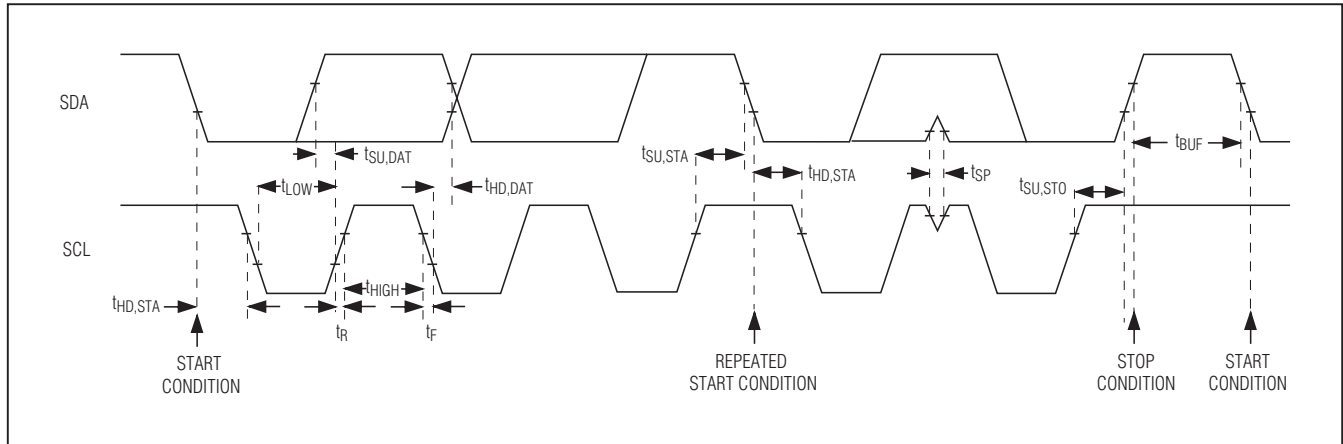

Figure 4. 2-Wire Interface Timing Diagram
The IC features an I2C/SMBus-compatible, 2-wire serial interface consisting of a serial-data line (SDA) and a serial-clock line (SCL). SDA and SCL facilitate communication between the IC and the master at clock rates up to 400kHz. Figure 4 shows the 2-wire interface timing diagram. The master generates SCL and initiates data transfer on the bus. A master device writes data to the IC by transmitting the proper slave address followed by the register address and then the data word. Each transmit sequence is framed by a START (S) or Repeated START condition and a STOP condition. Each word transmitted to the IC is 8 bits long and is followed by an acknowledge clock pulse. A master reading data from the IC transmits the proper slave address followed by a series of nine SCL pulses. The IC transmits data on SDA in sync with the master-generated SCL pulses. The master acknowledges receipt of each byte of data. Each read sequence is framed by a START or Repeated START condition, a not acknowledge, and a STOP condition. SDA operates as both an input and an open-drain output. A pullup resistor, typically greater than 500 $\Omega$ , is required on the SDA bus. SCL operates as only an input. A pullup resistor, typically greater than 500 $\Omega$ , is required on SCL if there are multiple masters on the bus, or if the master in a single-master system has an open-drain SCL output. Series resistors in line with SDA and SCL are optional. Series resistors protect the digital inputs of the IC from high-voltage spikes on the bus lines, and minimize crosstalk and undershoot of the bus signal.